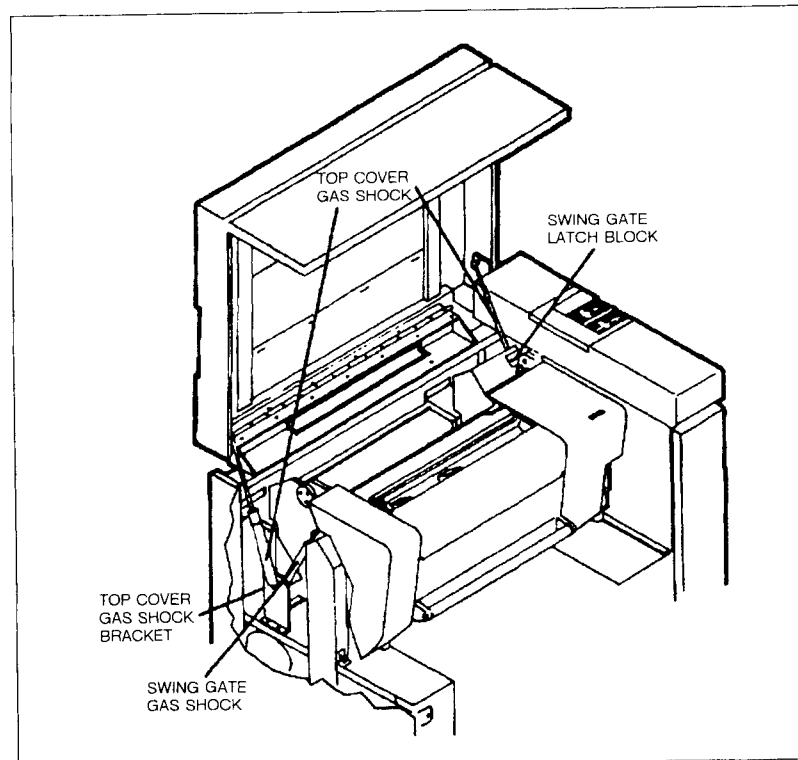

Figure 6-44. Gas Spring Removal
- a. Switch the printer offline and the ON/OFF switch to the OFF (0) position.
- d. Remove the bracket attached to the lower left top cover gas spring by removing the four screws from the bracket (see Figure 6-44). (Note, this effectively removes the gas spring from the printer top cover, which leaves the top cover only partially supported.)
- f. Remove the swing gate block by removing the two 4mm allen screws and lock nuts (see Figure 6-44). This will allow the swing gate to swing farther back in its arc, increasing the distance between the gas spring installation points.